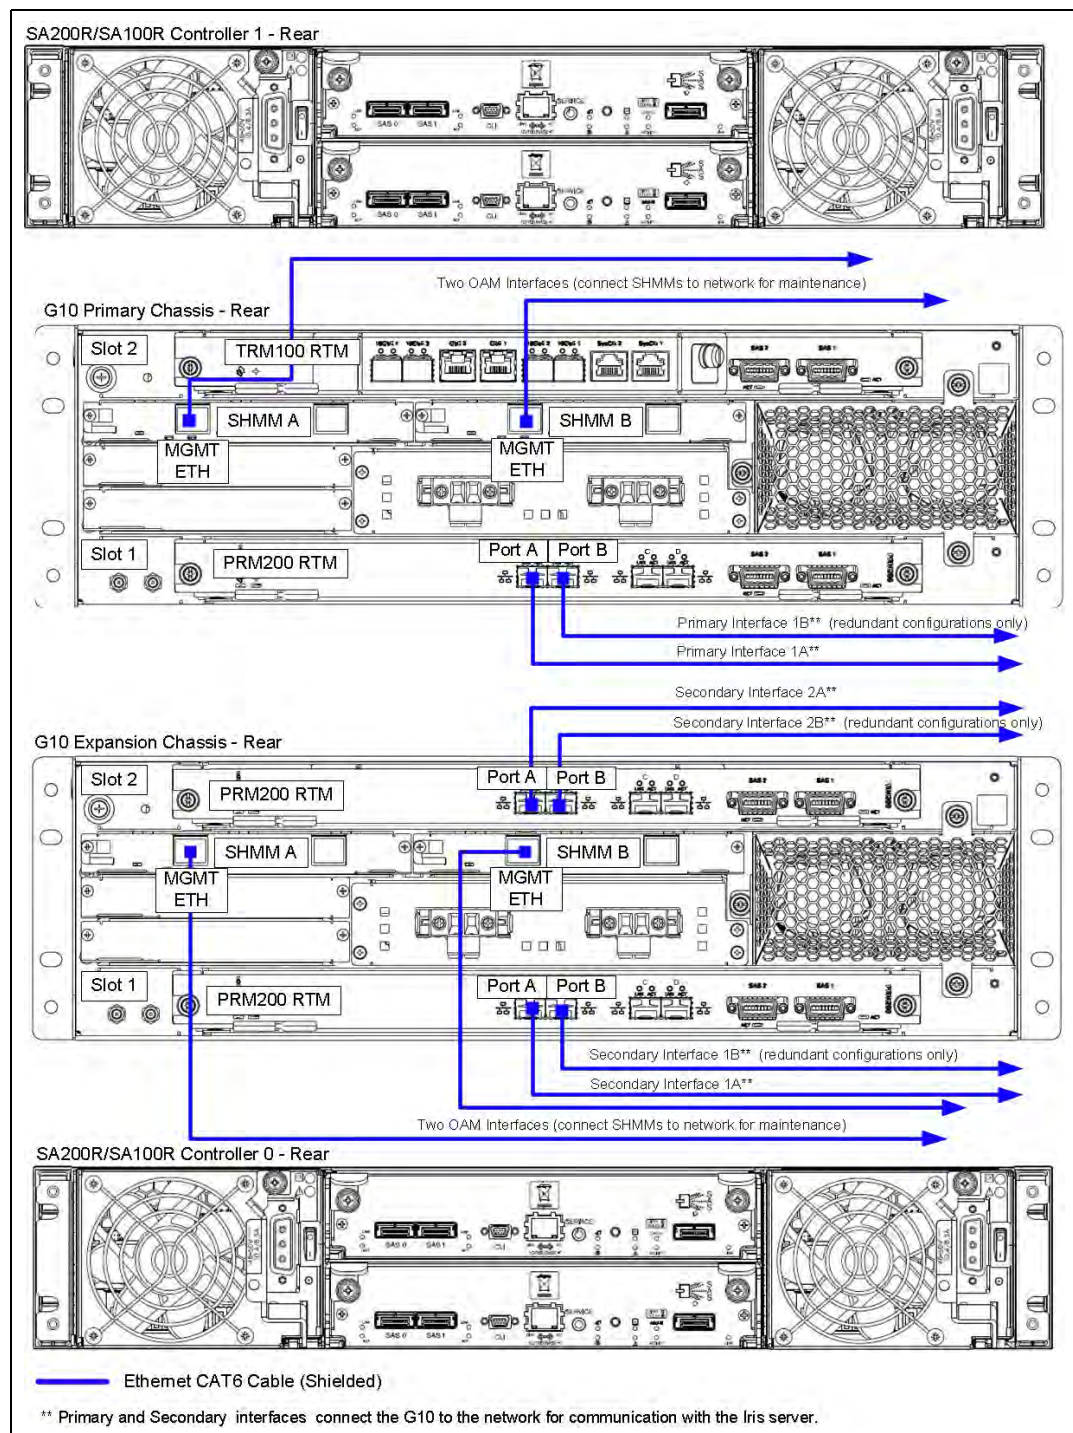

Figure 3.16 - Ethernet Connections from G10 to LAN
2. Use Figure 3.16 to connect Ethernet cables from the G10 chassis to your LAN.